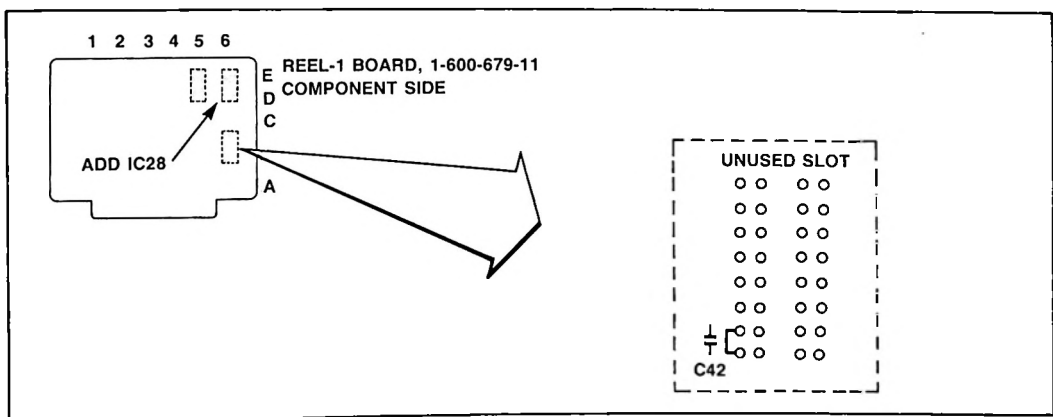

Figure 6
1. Delete C42. (See Figure 6.)